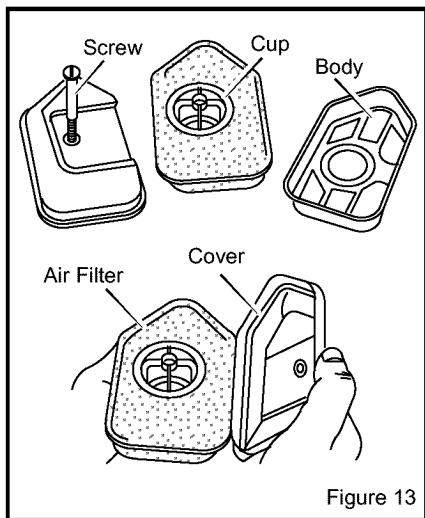

Figure 13
2. Remove screw as illustrated (see Figure 13).